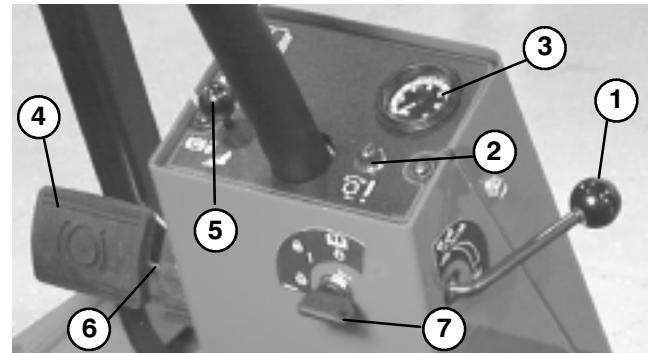

Figure 24
**Traction Speed Limiter** (Fig. 24) – Preset this lever to limit the amount the traction pedal can be depressed in the forward direction to maintain a constant mowing speed.
**Reel Control Light** (Fig. 24) – When lit, indicates control system problem.
**Speedometer** (Fig. 24) – Indicates ground speed at which machine is traveling.
**Brake Pedals** (Fig. 24) – Two foot pedals operate individual wheel brakes for turning assistance, parking and to aid in obtaining better sidehill traction. Locking pin connects the pedals for parking brake operation and transport.
**Parking Brake Latch** (Fig. 24) – A knob on the left side of console actuates parking brake lock. To engage parking brake, connect pedals with locking pin, push down on both pedals and pull parking brake latch out. To release parking brake, depress both pedals until parking brake latch retracts.
**Key Switch** (Fig. 24) – Three positions: OFF, ON / Preheat and START.